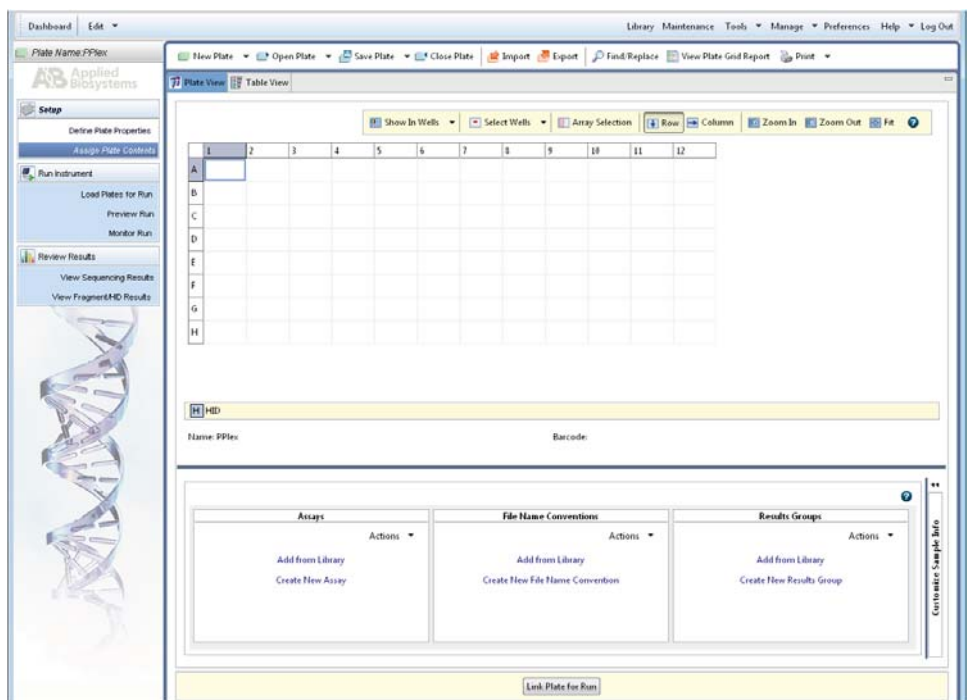

Figure 10. Assigning plate contents.
- Select “Assign Plate Contents” (Figure 10).